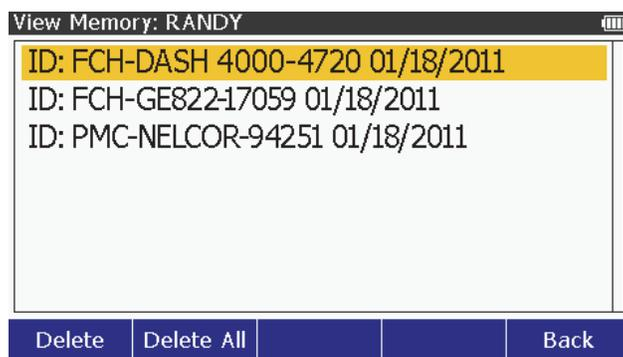

Figure 56. Test ID Screen
6. The list of test IDs shows on the display. Figure 56 shows an example list of test IDs.